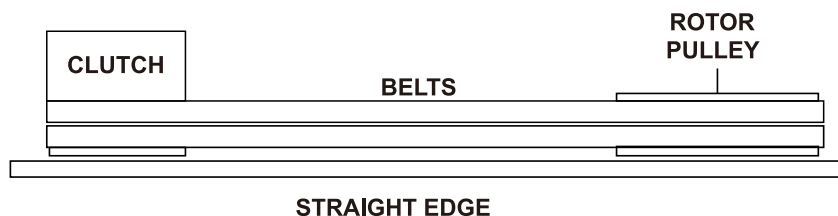

Fig. 2
5. Check alignment of the clutch with the drive pulley by placing a straight edge across both faces as shown in **fig. 2**. If adjustment is necessary, correct alignment by moving rotor pulley in or out on the rotor shaft. Do not make adjustment by moving the clutch on the engine shaft.